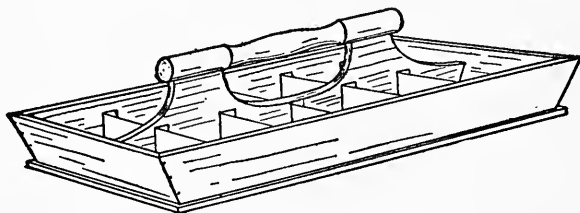

FIG. 18.— Nail-box.
**Nail-box**, with compartments for the different sizes of nails, screws, hooks, screw-eyes, hinges, etc. One of the best kinds of boxes for this purpose is a knife-box such as can be bought for ten or fifteen cents. This is divided in two and has a handle attached (see Fig. 18). The two compartments should be sub-divided into smaller boxes, either with pieces of cigar-boxes, or with pieces of